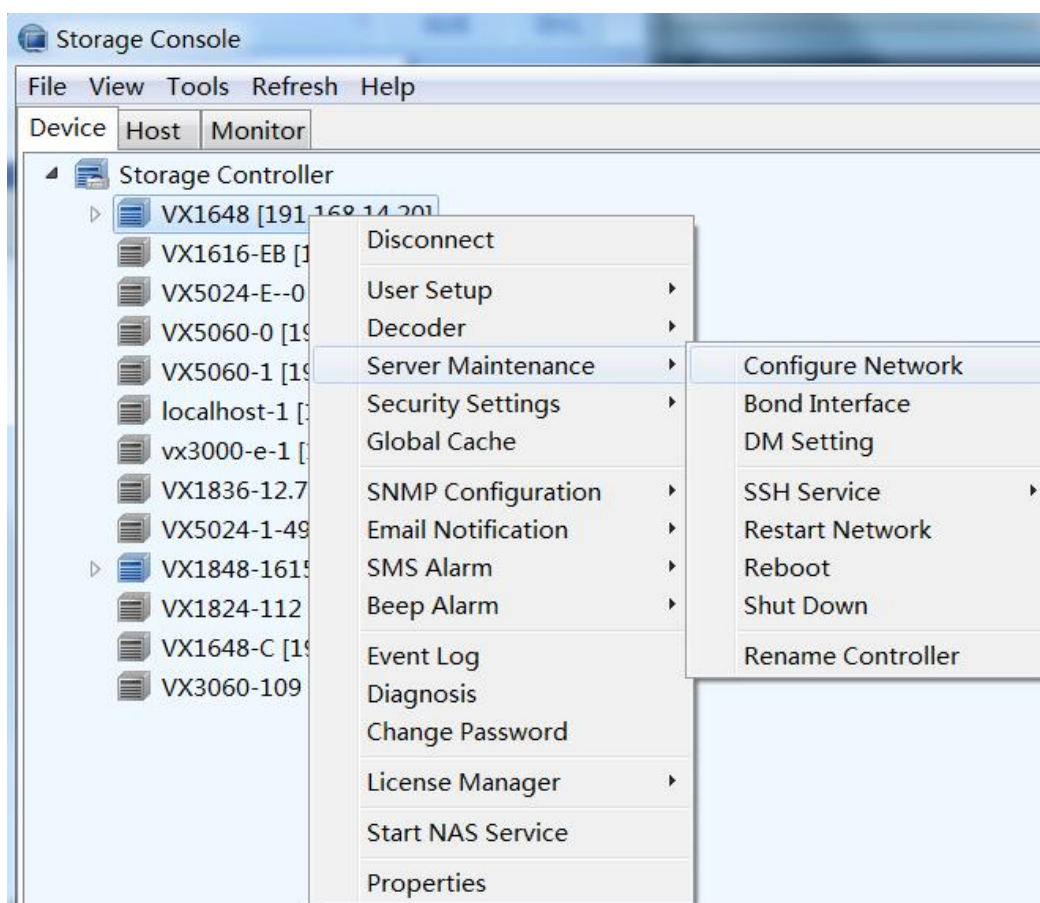

Figure 10-3 Setting the network port IP address
(1) Log in to the storage interface. Right click the **hostname** node of the storage controller and change the IP of the other service ports in **[Server Maintenance > Configure Network]**, as shown in the Figure 10-3: